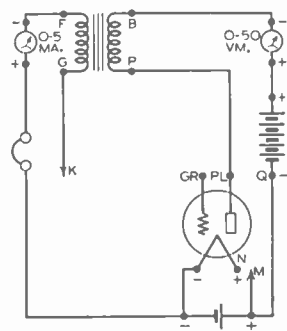

FIGURE 108
11. Rewire the circuit as shown in Fig. 108. Fasten *K* to *GR* and touch *M* to *N*. Note the meter actions and listen to the phone. The meters will assume a steady reading, higher than before, and an audio tone will be heard in the phone. A voltage is being induced into the grid circuit at an audio rate and the tube is furnishing the means for keeping the current varying continually. The grid voltage is varying the plate resistance, and hence is varying the plate current. The varying current in turn is causing the grid voltage to vary, due to induction through the transformer.